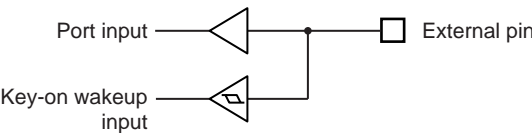

Figure 13-2 Key-on Wakeup Input and Port Input
- Note 3: The input circuit of Key-on Wakeup input and Port input is separated. Also each input voltage threshold value is different. Therefore, a value comes from port input before STOP mode start may be different from a value which is detected by Key-on Wakeup input (Figure 13-2).